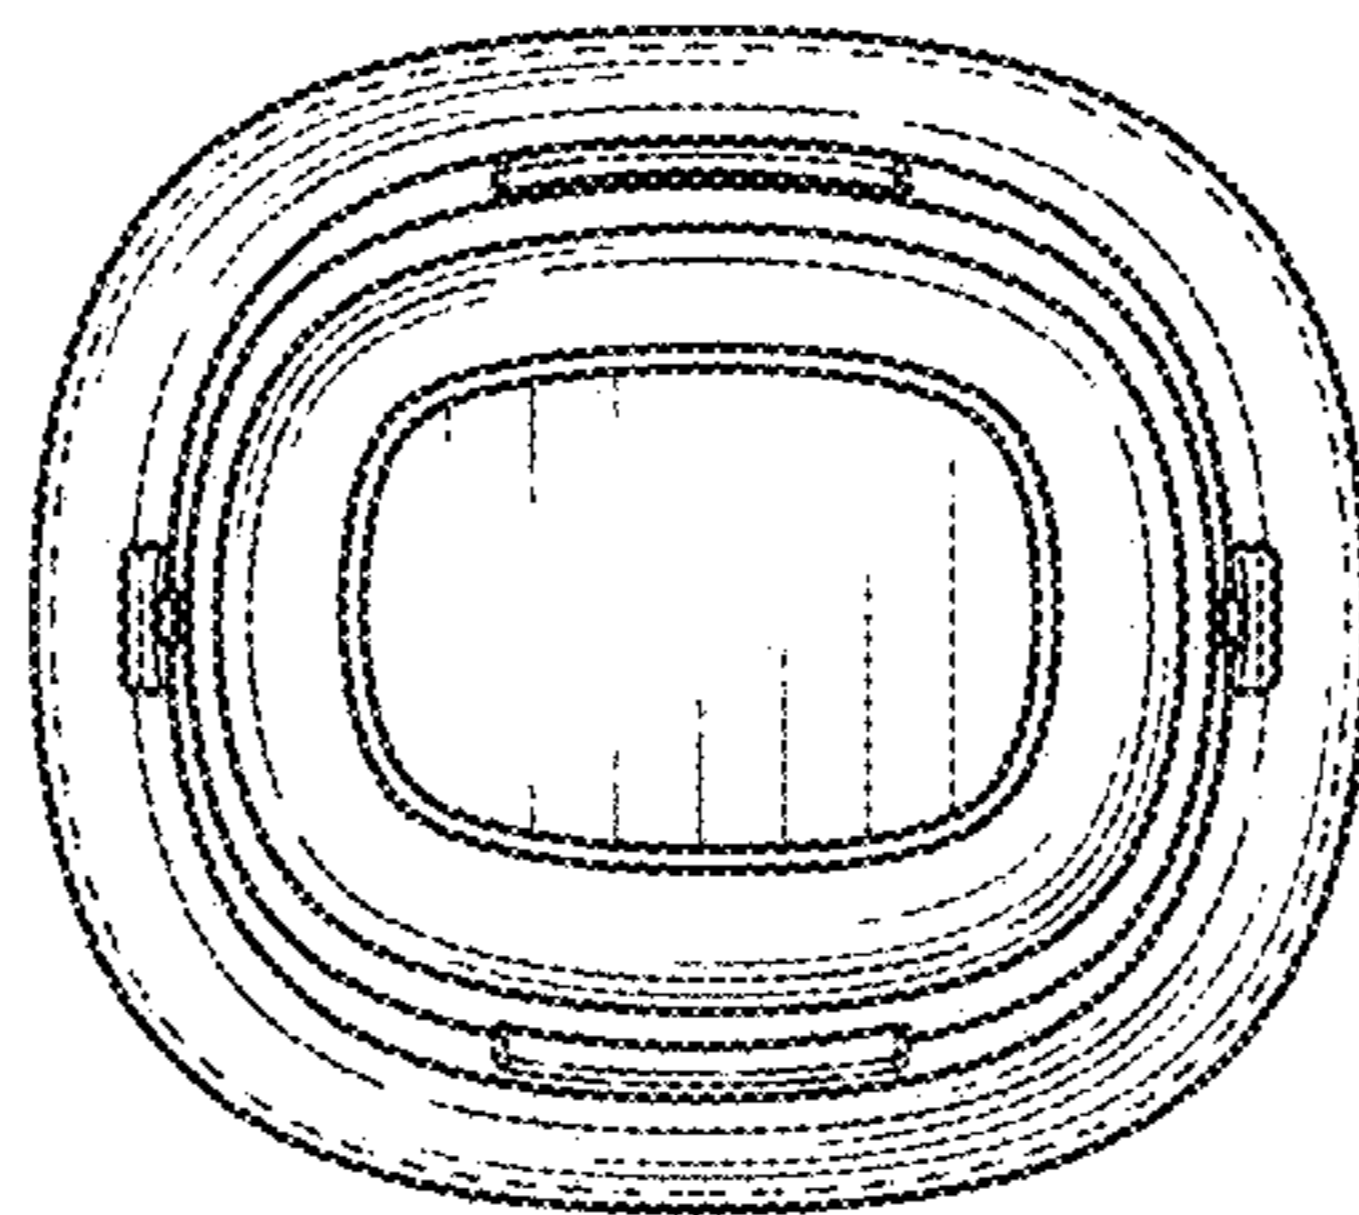

FIG. 7
- FIG. 7 is a bottom plan view thereof;